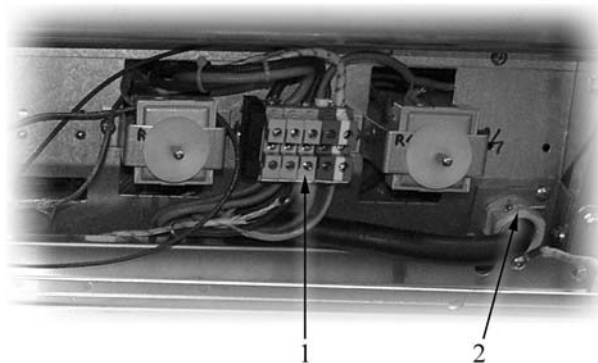

Fig. 7a
The terminal block is mounted on the lower compartment as shown in Fig.7a.
The power cable must be secured with the cable clamp fitted to the appliance (pos.2 in Fig. 7a) to prevent it from being damaged.